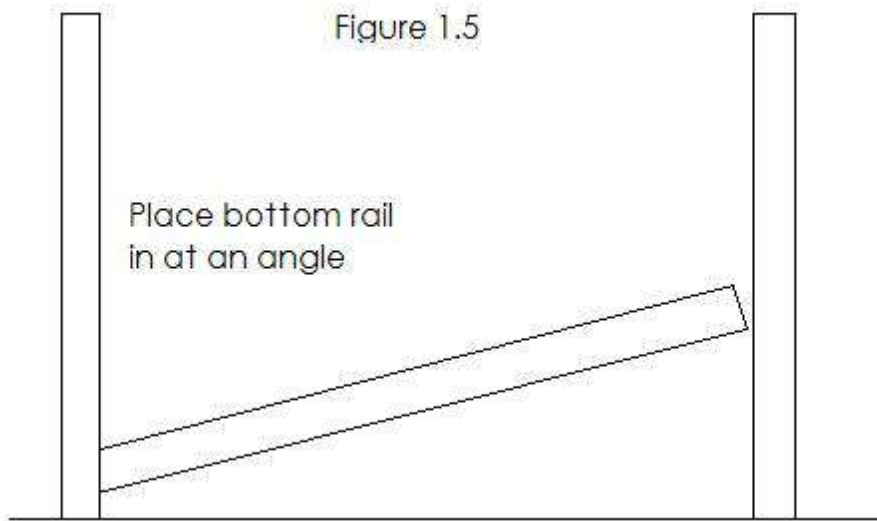

Figure 1.5
Step 9. Installing your fence sections is a relatively easy and rewarding step. Start by installing the bottom rail of each section. Measure the distance between the post and add 3” per section. This will allow each rail to be inserted into each post 1.5 inches. Take the rail and at an angle insert the rail into your first post. Allow the rail to go into the post and lower the rail and insert it into your next post. (Fig 1.5)